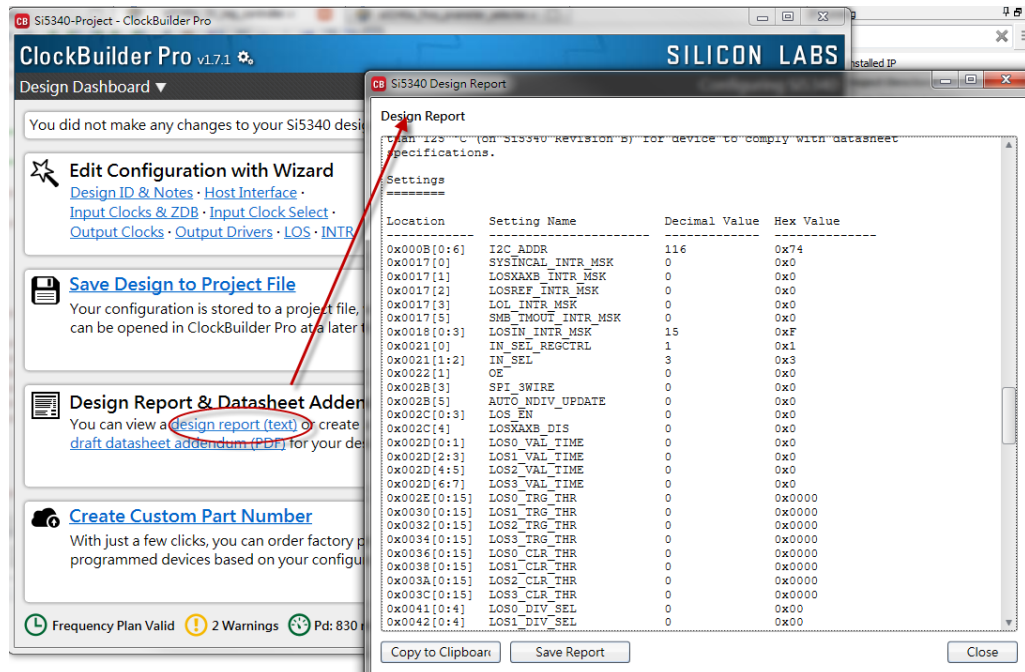

Figure 5-7 Open Design Report on ClockBuilder Pro Wizard
- After the setting is completed, ClockBuilder Pro Wizard generates a Design Report(text), which contains users setting frequency corresponding register value (See **Figure 5-7**).